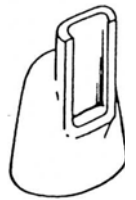

Fig. 11
6. If the abutment is to have a porcelain crown, the attachment must have at least a 0.4mm layer of alloy surrounding the female. This includes the portion extended above the occlusal surface of the casting. This layer will prevent porcelain from contacting the attachment surface. If porcelain touches the attachment checking may occur (Fig. 11).